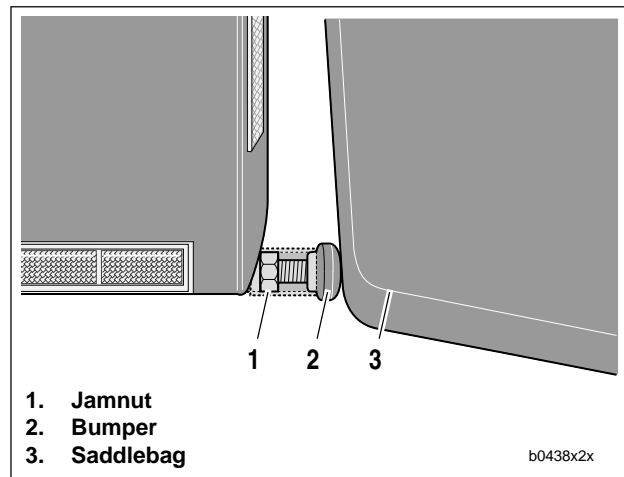

Figure 2-121. Saddlebag Alignment
5. See Figure 2-121. If saddlebags are difficult to close or install, check rear saddlebag bracket alignment on both sides.
- b. Turn bumper (2) counterclockwise until it contacts saddlebag (3).
- d. Tighten jamnut (1) against rear saddlebag support bracket.